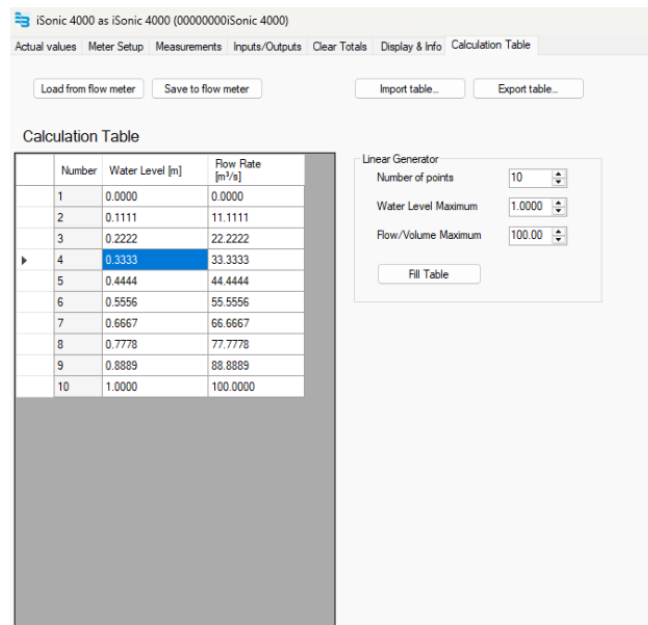

Figure 5: Changing water level and/or flow rate values
- d. If desired, click on any water level or flow rate value to make a change. Enter the new value. See Figure 5.